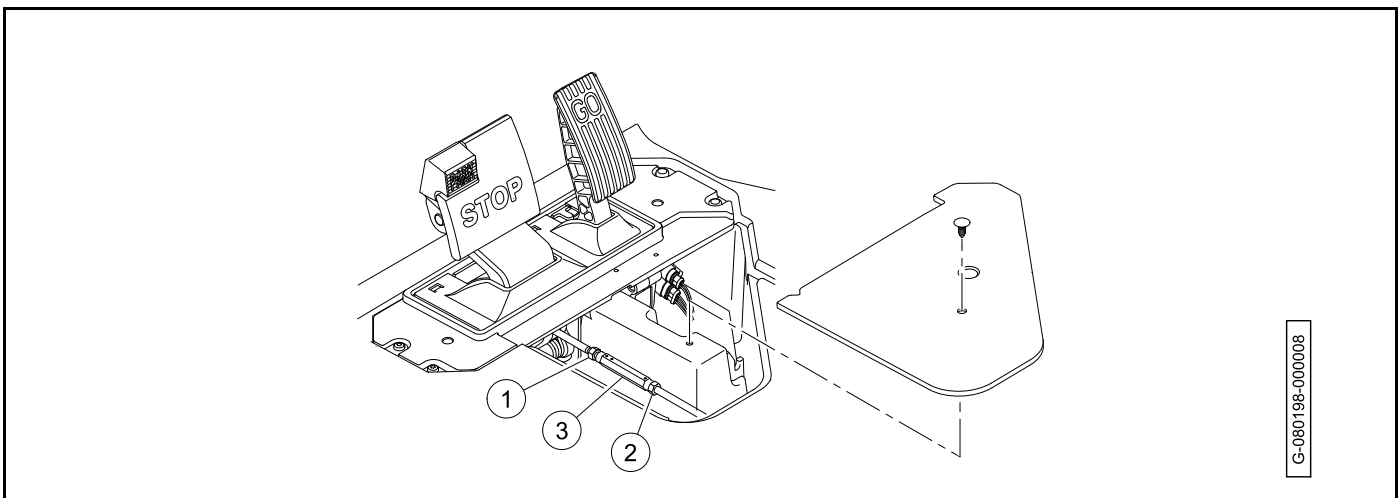

Figure 6-19
8. Loosen the left-hand thread jam nut (1) and right-hand thread jam nut (2) (**Figure 6-19**).